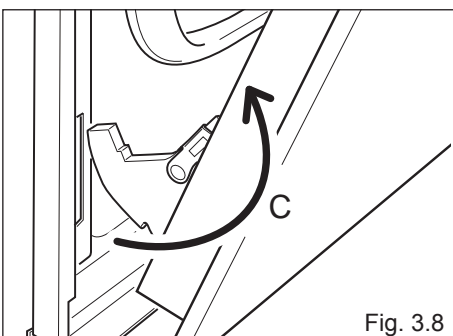

Fig. 3.8
5. Withdraw the hinge hooks from their location following arrow "C" (fig. 3.8).